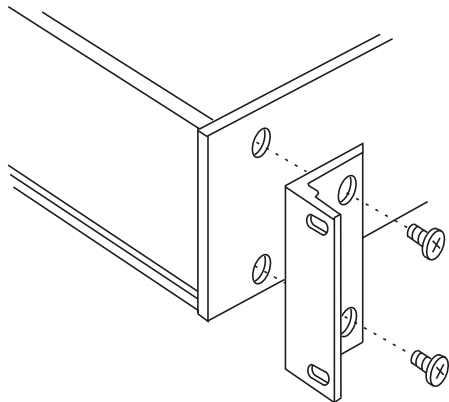

Figure 8
- Align the rack mount bracket with the holes on the side of the unit. See Figure 8.